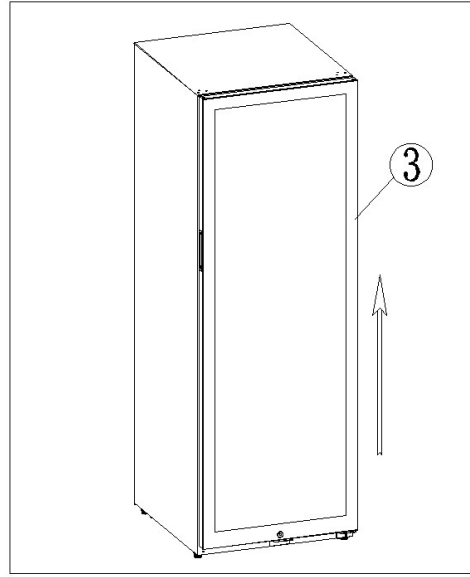

Figure 2
- 2) Then hold the door body ③ with both hands, slowly and vertically upward, and remove the door body. Carefully place on a protective cushion. see Figure 2.
- 3) Use a Phillips screwdriver to remove the screws ④ on the lower door hinge. Use a flat-blade screwdriver to remove the lower door hinge core ⑤ from the lower door hinge, and install it into another screw hole on the lower door hinge. Then install it in the corresponding position on the other